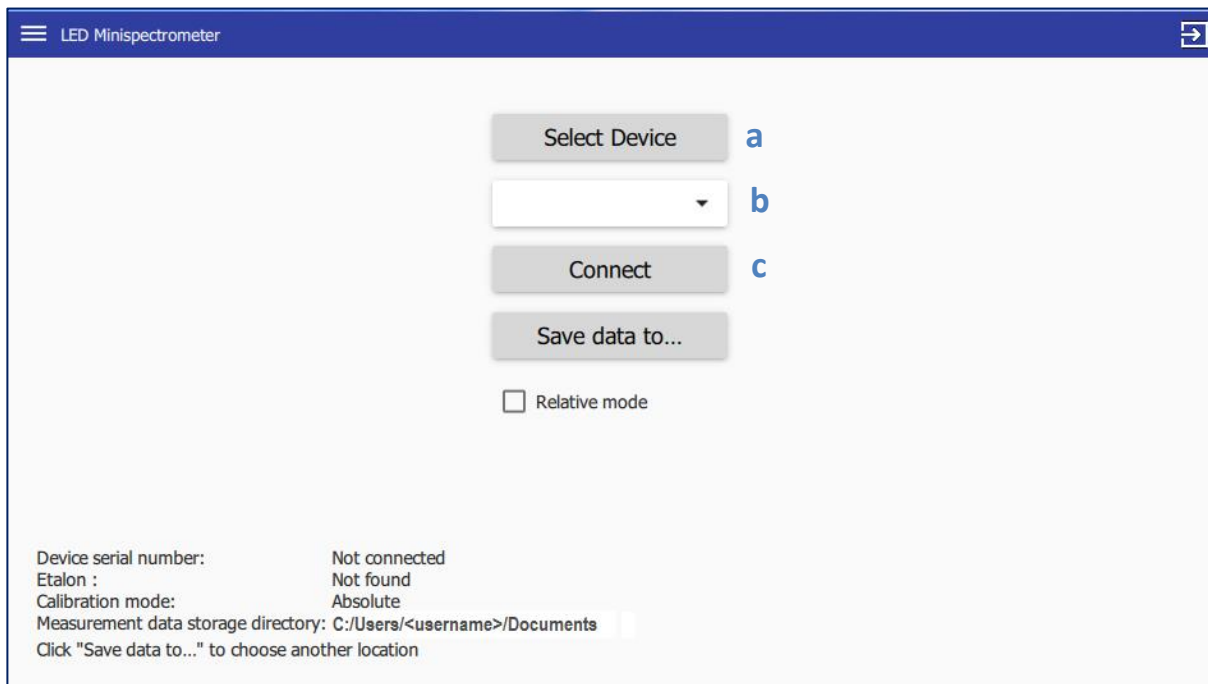

Fig.1. Program settings – connecting the device.
3. Run “LEDMinispectrometer” software. Your PC will display the window with initial program settings, corresponds to the Menu option “Settings” (fig.1)¹.
3.1 Click “Select Device” button (fig.1, a).
- 3.2 Choose the available device from the drop-down list (fig.1, b) (the number of the visual com-port will be displayed).
- 3.3 Click “Connect” button (fig.1, c).